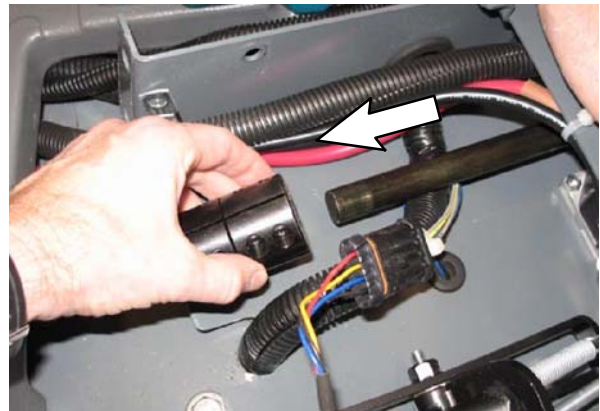

FIG. 17
16. Slide the steering coupling from the steering shaft. Discard the removed steering coupling. (Fig. 17)